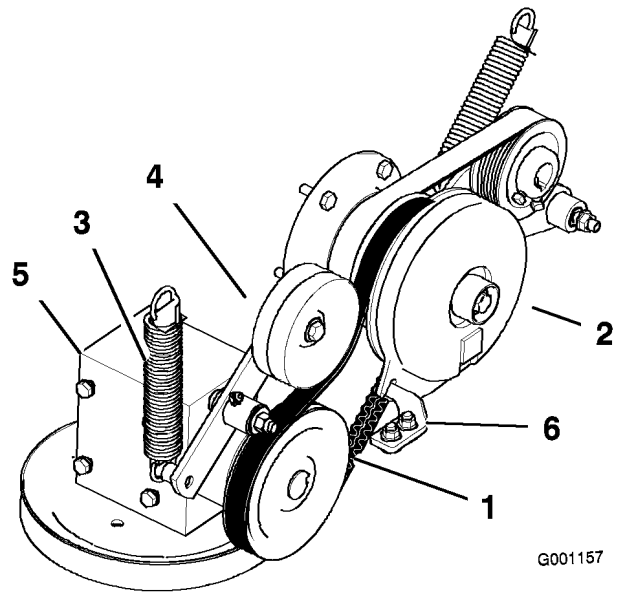

Figure 59
4. Remove the spring from the idler arm (Figure 59).
7. Install the PTO drive belt around the clutch pulley and the gearbox pulley (Figure 59).
9. Install the spring to the idler arm (Figure 59).